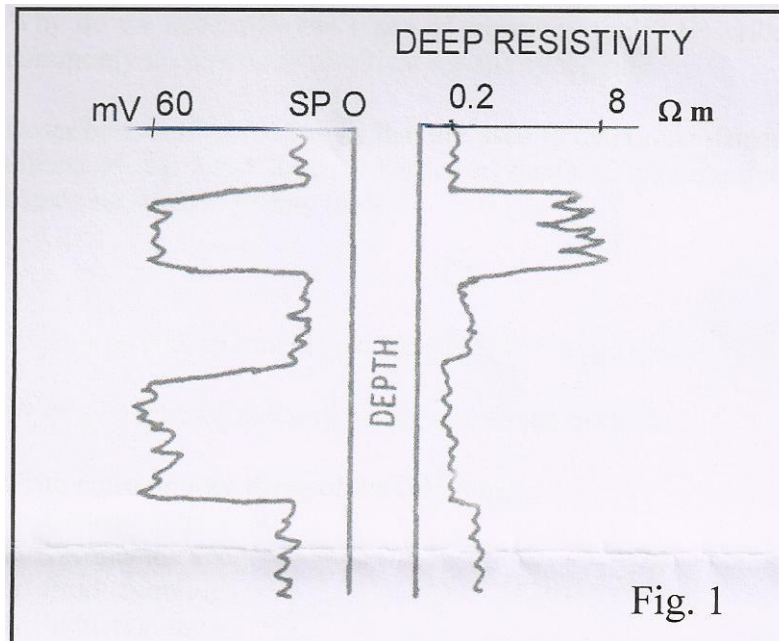

Fig. 1
B) Give a quick look interpretation and geological interpretation of the logs given [08] in the figure 1. Assume logically significant additional data and state values clearly. Calculate S_w .